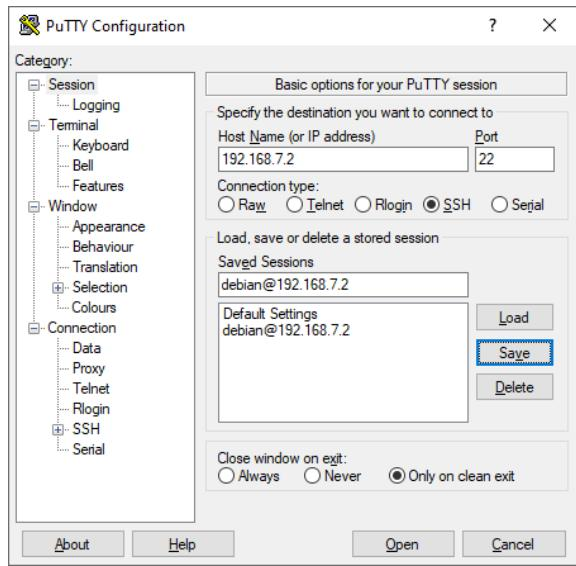

Figure 4.6: PuTTY Saved Session
5. (Optional) For easier access in the future, the session access information may be saved in PuTTY. Write <username>@<ipaddress> in the "Saved Sessions" field. For this guide, the session is "debian@192.168.7.2" (Fig. 4.6). Then click "save"